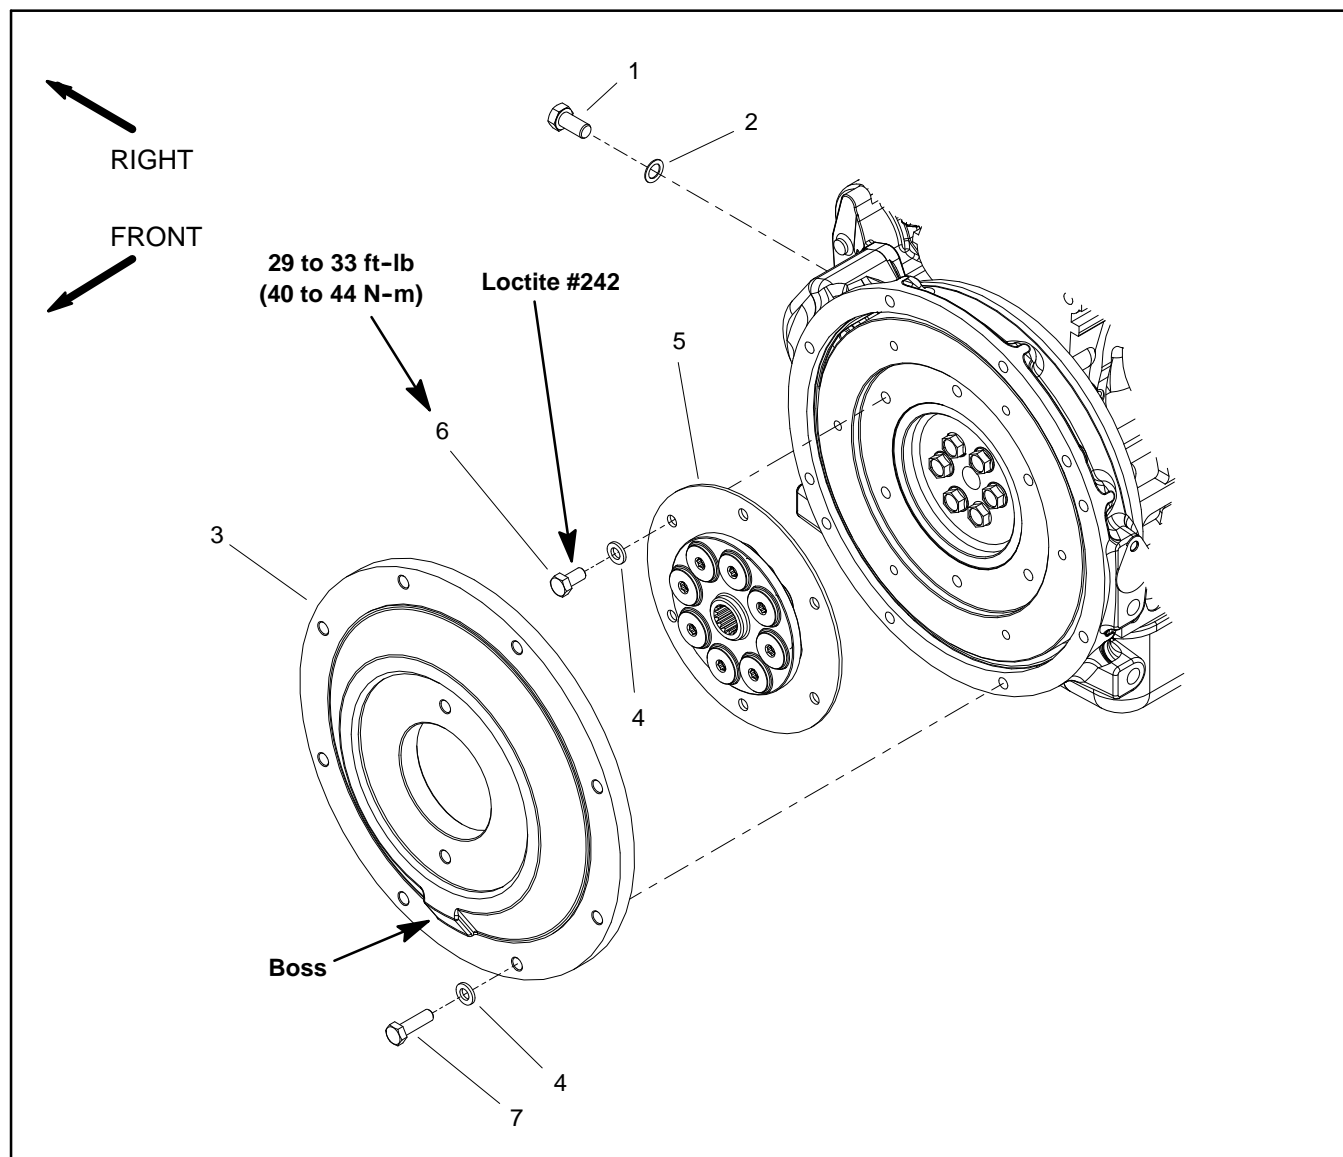

Figure 12
### Coupler Removal (Fig. 12)
2. Remove flywheel plate and spring coupler from engine using Figure 12 as a guide.
### Coupler Installation (Fig. 12)